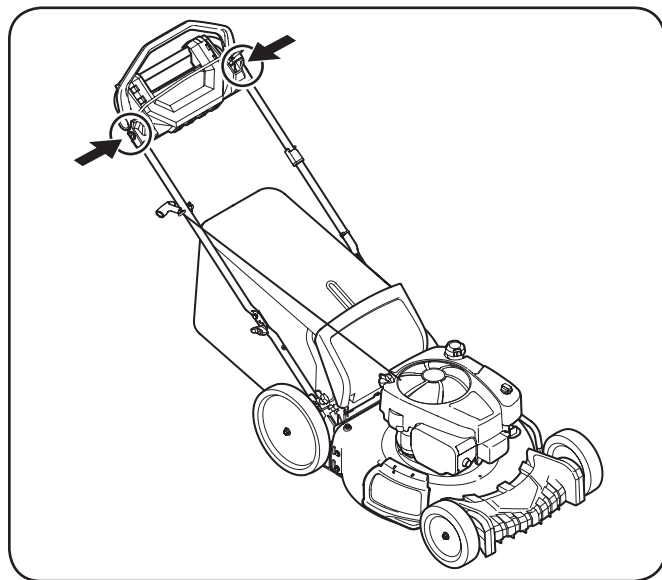

Figure 6-1
1. Lubricate pivot points on the blade and drive control at least once a season with light oil. This control must operate freely in both directions. See Figure 6-1.